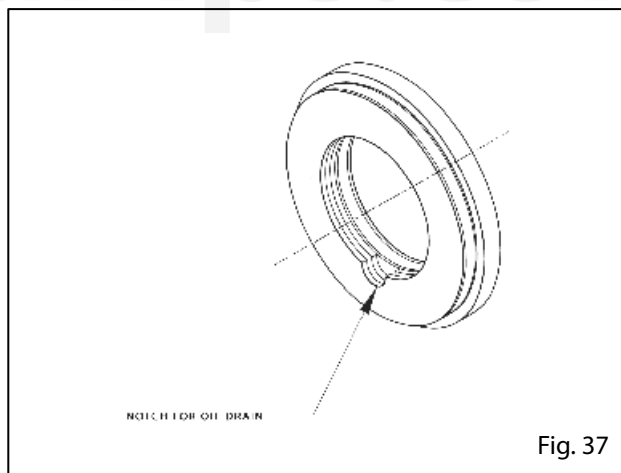

Fig. 37
- 12.- Install the exterior labyrinth seal in the bearing box, this is with an adjustment gasket type "O" slot oil drain must point downwards (see Figure 37).
25.- Install the labyrinth seal in the bearing box, this is with an adjustment on the gasket type "O", the oil drain slot should face down (see Figure 37).